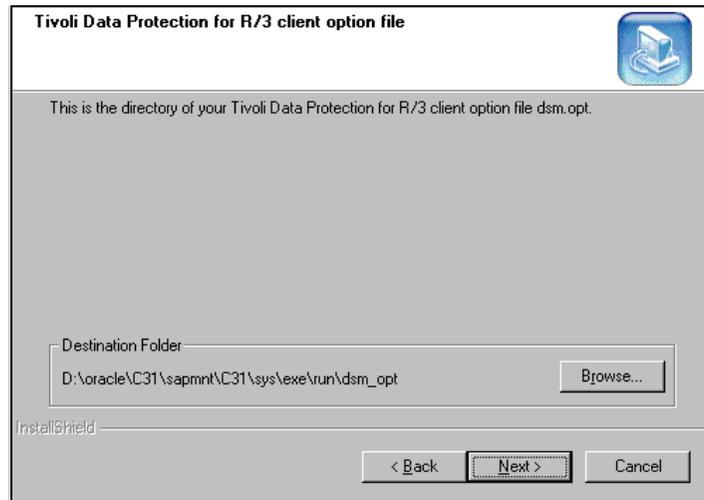

Figure 73. Option file destination folder
- Check the destination where your `<servername>.opt` file(s) will reside and change it if needed (see Figure 73).